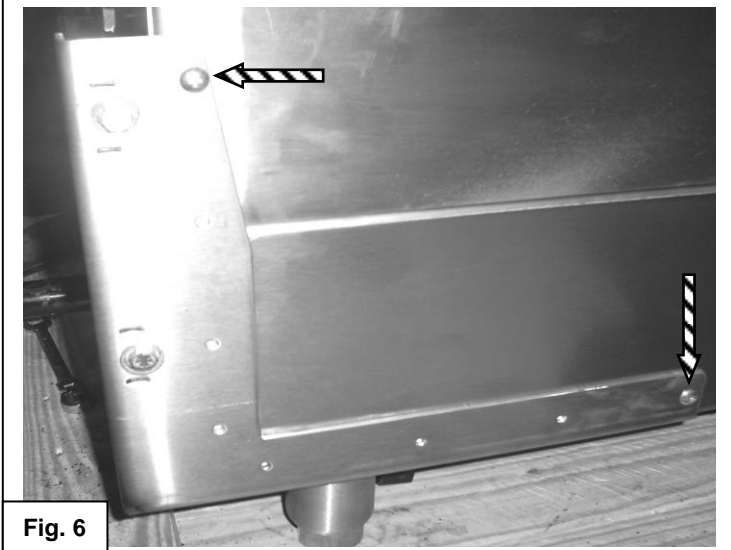

Fig. 6
6. Using the side mounting bracket as a guide, drill holes into the griddle chassis with the 5/32" bits only at the highest hole and the hole nearest the front of the unit on the side bracket. See Fig. 5 and Fig 6. Repeat procedure for opposite side of bracket system assembly.
7. Insert and tighten 10-24 x 1/2 screws into the holes that were drilled in step 6. Repeat procedure for opposite side of bracket system assembly. See Fig. 6.